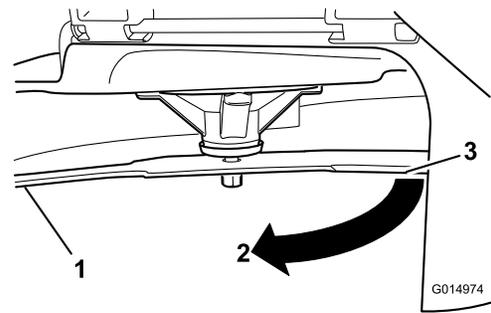

Figure 101
3. Measured distance between blade and the surface (A)
4. Rotate the same blade 180 degrees so that the opposing cutting edge is now in the same position (Figure 101).